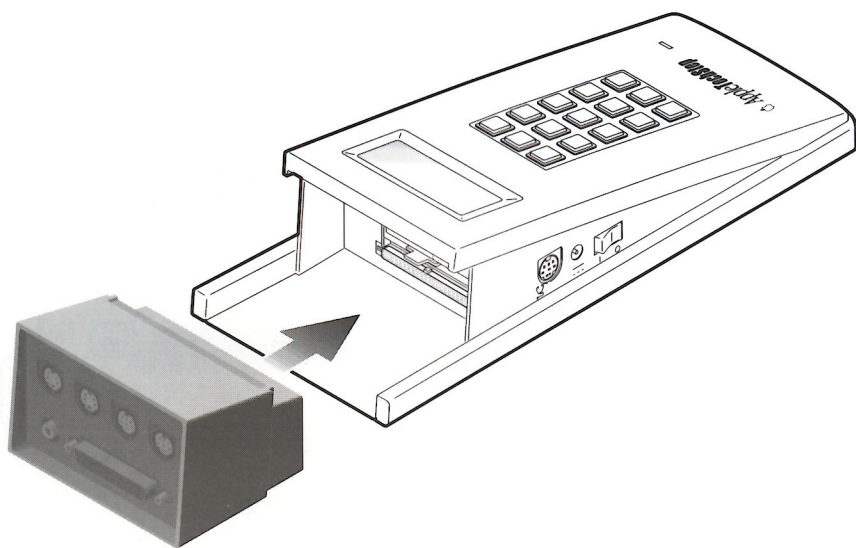

Figure 3-2 **Installing a Port Pack**
2. Slide the port pack, with the interface port connectors facing away from Apple TechStep, into the port pack connector at the rear of Apple TechStep, as Figure 3-2 shows.